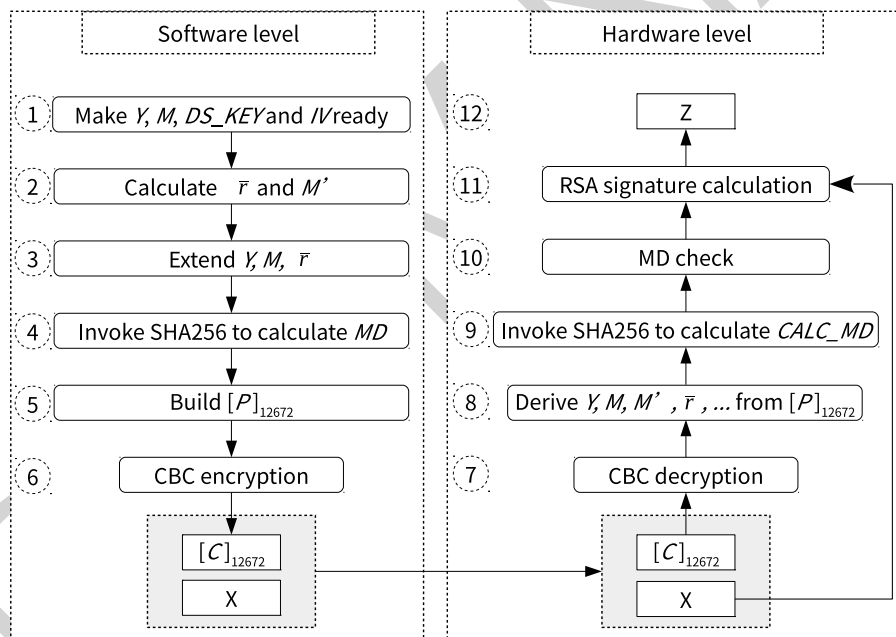

Figure 20-1. Software Preparations and Hardware Working Process
The left side of Figure 20-1 lists preparations required by the software before the hardware starts RSA signature calculation, while the right side lists the hardware workflow during the entire calculation procedure.
1. The software preparation (left side in the Figure 20-1) is a one-time operation before any signature is calculated, while the hardware calculation (right side in the Figure 1-1) repeats for every signature calculation.
Users need to follow the steps shown in the left part of Figure 20-1 to calculate C . Detailed instructions are as follows:
1. Decryption: Step 7 and 8 in Figure 20-1
The decryption process is the inverse of Step 6 in figure 20-1. The DS peripheral will call AES accelerator to decrypt C in CBC block mode and get the resulted plaintext. The decryption process can be represented by $P = \text{AES-CBC-DEC}(C, DS_KEY, IV)$, where IV (i.e., $[IV]_{128}$) is defined by users. $[DS_KEY]_{256}$ is provided by HMAC module, derived from $HMAC_KEY$ stored in eFuse. $[DS_KEY]_{256}$, as well as $[HMAC_KEY]_{256}$ are not readable by users.
2. Check: Step 9 and 10 in Figure 20-1
The DS peripheral will perform two checks: MD check and padding check. Padding check is not shown in Figure 20-1, as it happens at the same time with MD check.
3. Calculation: Step 11 and 12 in Figure 20-1